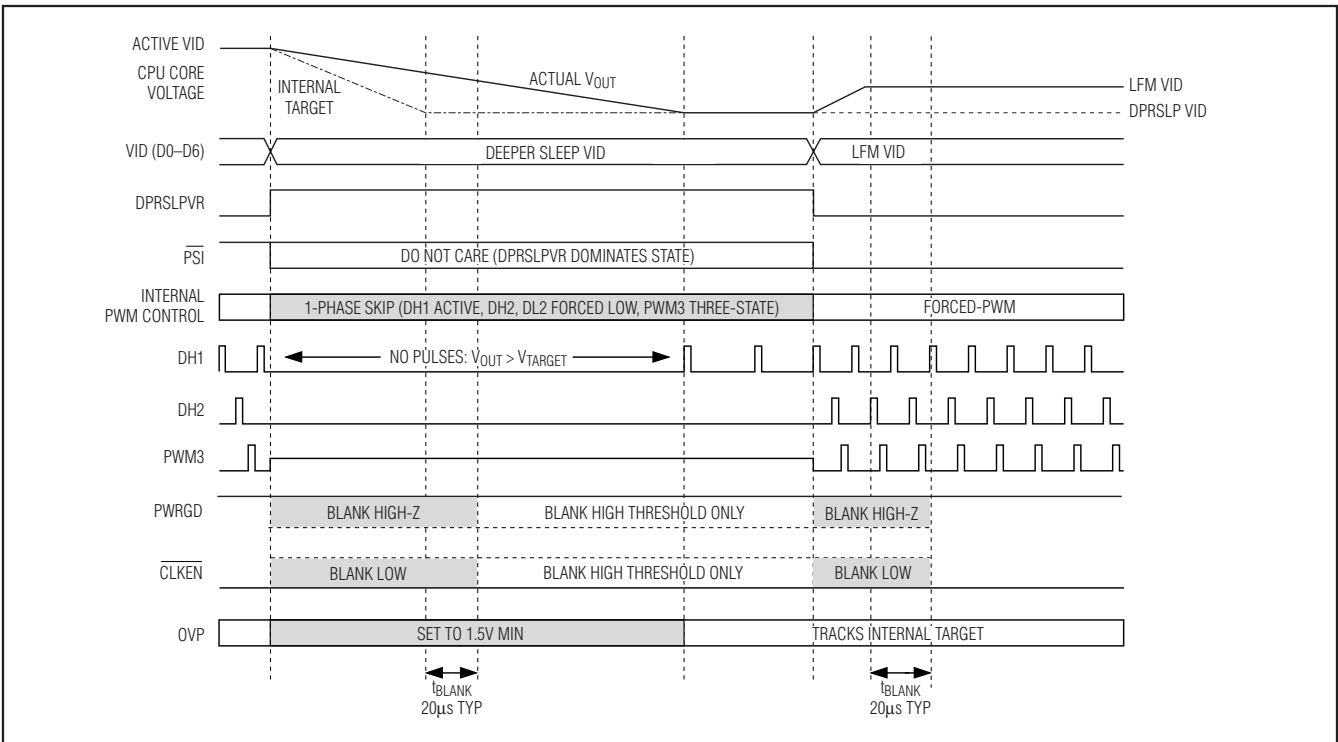

Figure 6. Standard C4 Transition
- **Standard C4 Deeper Sleep Exit:** When exiting deeper sleep (DPRSLPVR pulled low) while the output voltage is regulating to the deeper sleep voltage, the MAX17030/MAX17036 immediately activate all enabled phases and ramp the output voltage to the LFM DAC code provided by the processor at the slew rate set by R_{TIME} . The controller blanks PWRGD and $\overline{\text{CLKEN}}$ (forced high impedance) until 20 μ s after the transition is completed. See Figure 6.